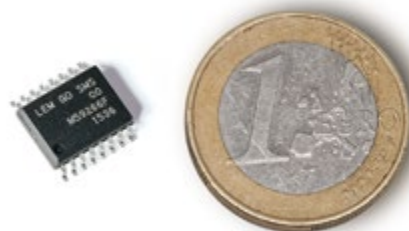

Figure 3: GO-SMS transducer in an SOIC-16 package.
transfer the accuracy requirement on the current transducer used is not demanding, and an open-loop transducer is ideal for this purpose. LEM has recently introduced the GO family of transducers (Reference (2)) which have the primary conductor integrated into a standard IC package. This gives a 70% PCB footprint reduction compared with a small transducer including a magnetic circuit. The SOIC-16 transducer is shown in figure 3. The principal specification parameters of the GO-SMS transducer in its SOIC-16 packaging are shown in Table 1.